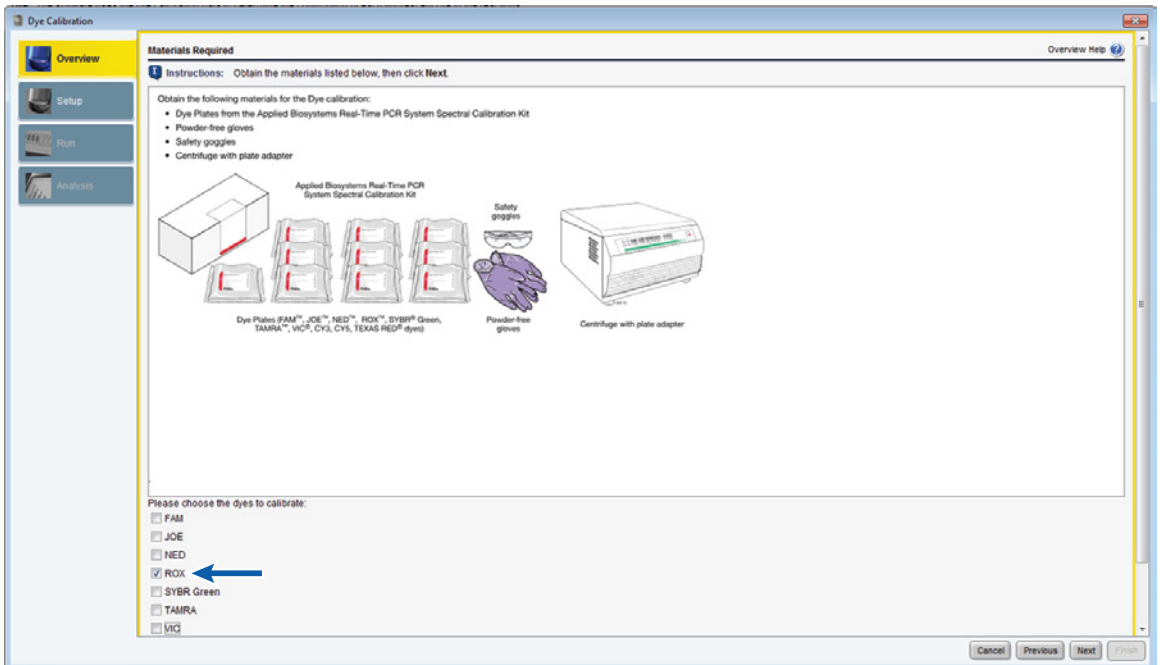

Figure 12. Choosing the dye to calibrate.
18. The Materials Required window opens. Check only the box for “ROX”, and select **Next** (Figure 12).